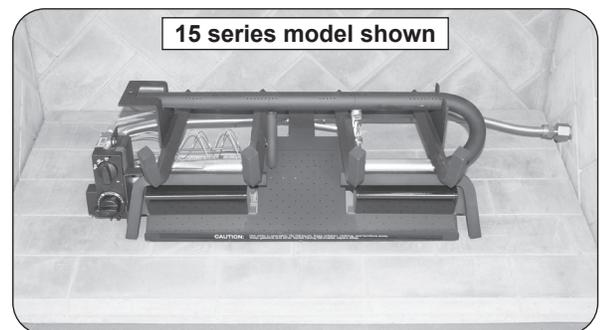

Fig. 15-2 Center burner in fireplace
3. Place the burner system in the fireplace. Center the burner from left to right. Make certain that no part of the burner assembly protrudes (forward) beyond the face of the fireplace. **DO NOT PUSH ALL THE WAY BACK.** See Fig. 15-2.
**Important:** Ensure the burner is properly placed per step 3, and rests level on the fireplace floor. Adjust if necessary. See Fig. 15-2 and 15-3.